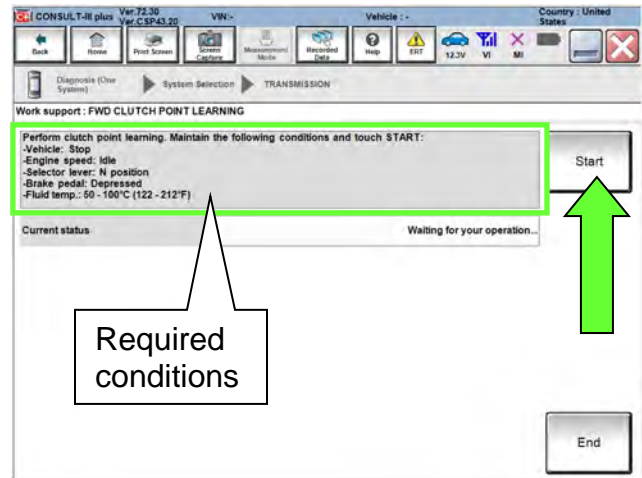

Figure 4L
9. With the engine still running and at idle, depress the brake pedal and shift the CVT into neutral (N).
- Confirm that all of the required conditions indicated in Figure 4L are being met.
11. While maintaining all conditions shown in Figure 4L and the “Current status” indicates “EXECUTING”, shift the CVT into **D** and then wait until the Current status indicates “COMPLETED”.
**NOTE:** This may take up to three (3) minutes to complete.